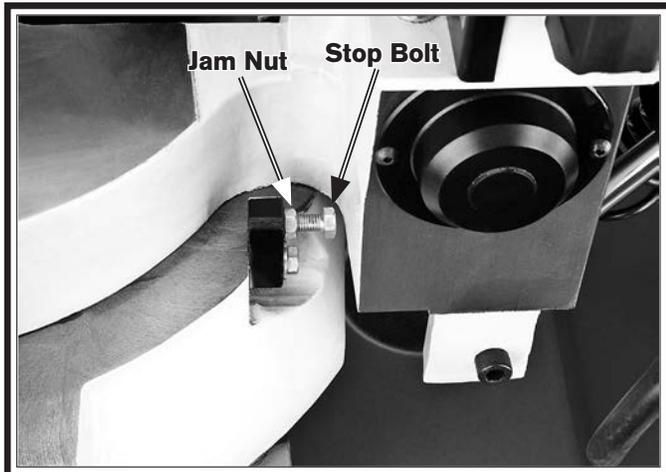

Figure 42. Stop adjustment.
- If the square does not fit snugly against both the stationary jaw and the blade, loosen the jam nut shown in **Figure 42**, then thread the stop bolt inward.
- Adjust the stop bolt as needed until it just touches the cast iron swivel base, as shown in **Figure 42**, then snug the jam nut against the stop block without turning the stop bolt.